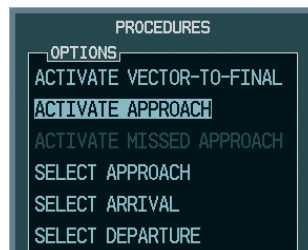

Figure 5-142 Manually Activate Approach
- Turn the large **FMS** Knob to highlight 'ACTIVATE APPROACH' as shown in Figure 5-142.